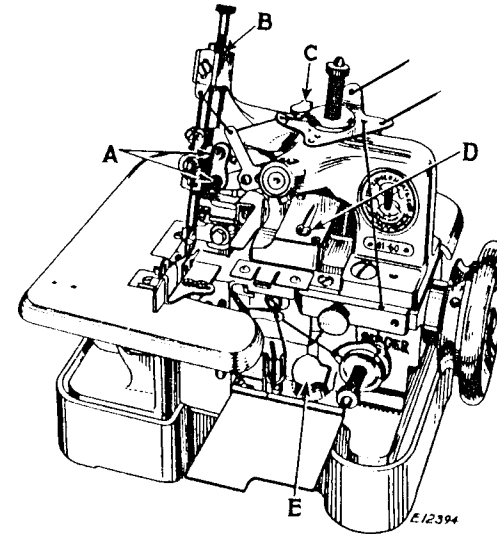
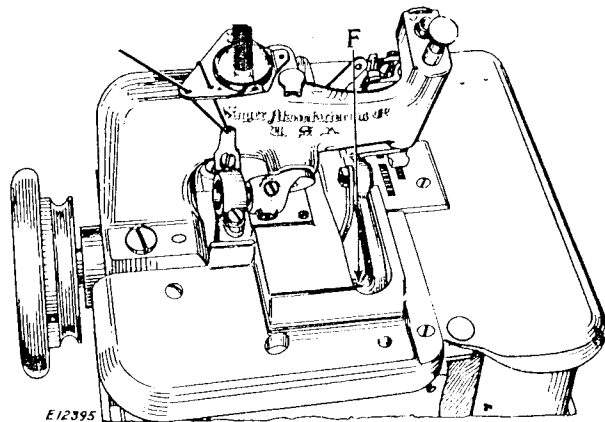

Fig. 4. Front View, Showing Oiling Points
Fig. 5. Rear View, Showing Oiling Point
Before Starting the Machine: Apply oil to the hole (D, Fig.4) and oil cup (E, Fig.4) until the reservoirs are full. Fill the oil cup (C) at the top of the machine and thoroughly saturate the wick through the hole (B) in the casting near the top of the needle bar. Then oil the needle bar link connection (A) at the front of the machine. Also apply oil to the presser lever bearings (F, Fig.5) at the back of the machine.